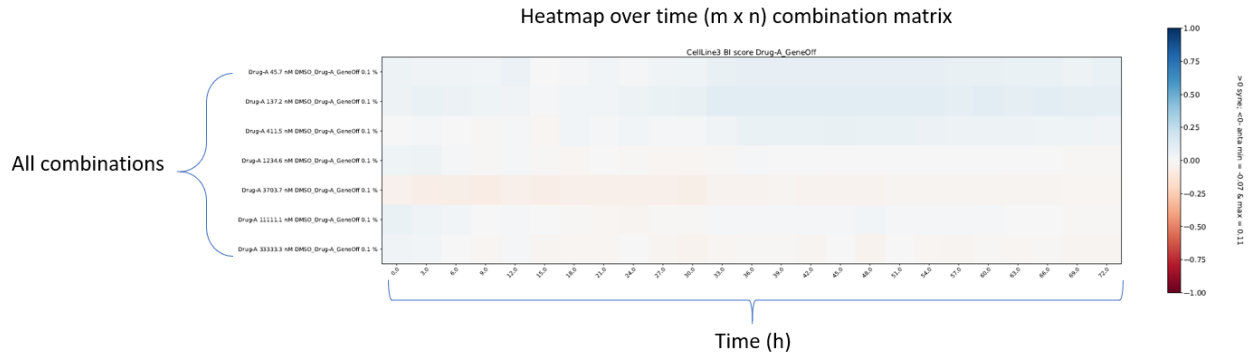

Figure 52: Heatmap over time for (m x n) matrix combination.
- Heatmap of BI score over time Figure 52.